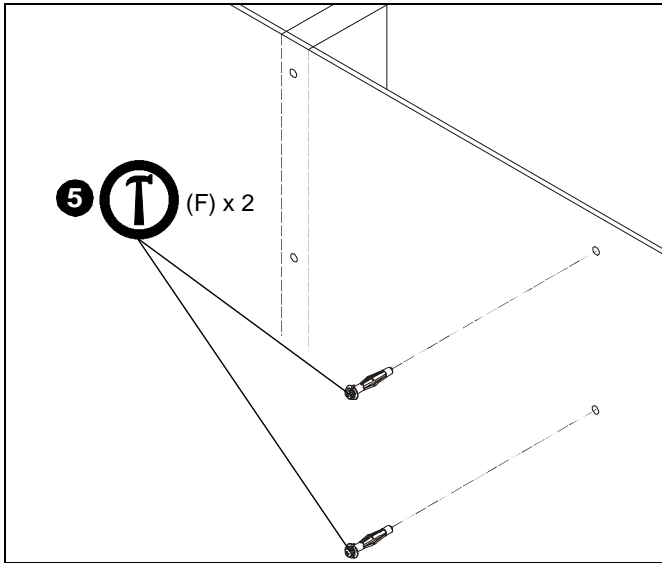
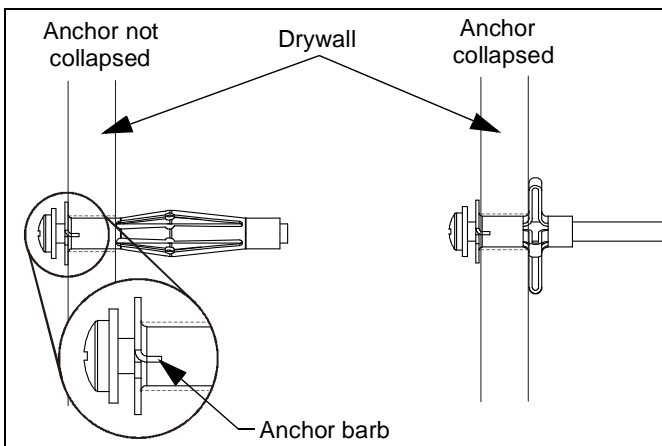

Figure 3
Figure 4
- Gently tap two anchors (F) into anchor holes. Anchor bars should be fully engaged in drywall. (See Figure 3) and (See Figure 4)
- Using Phillips screwdriver, tighten anchor screw until anchor has fully collapsed against back side of drywall. (See Figure 4)